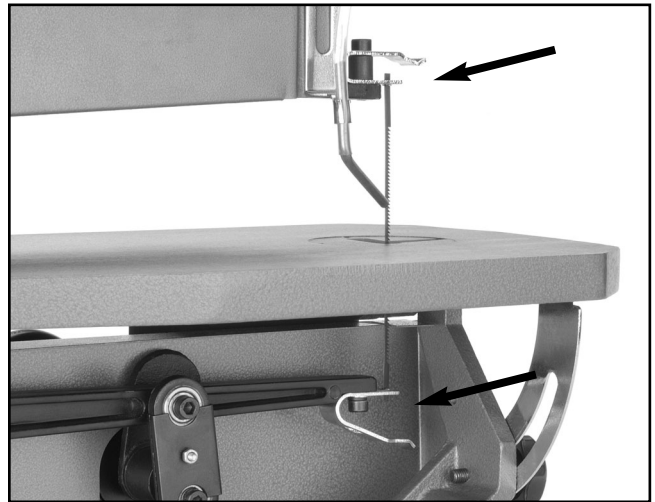

Figure 10. Blade attached to both holders.
5. Feed the blade through the table and hook it into the lower blade holder as shown in **Figure 10**. The teeth should face forward and down.